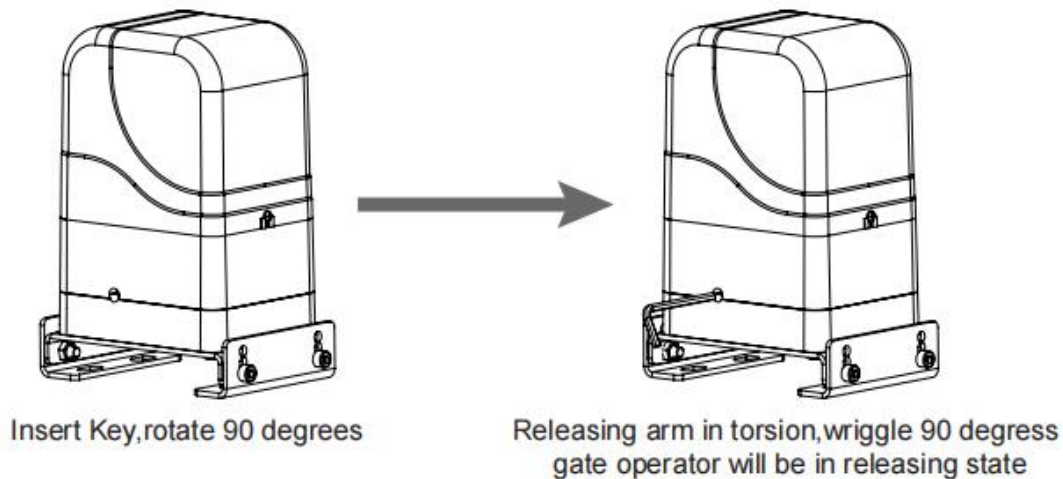

Fig 9
1. Using the supplied key unlock manual override and pull out manual override lever (see Fig 9) then manually close the gate.